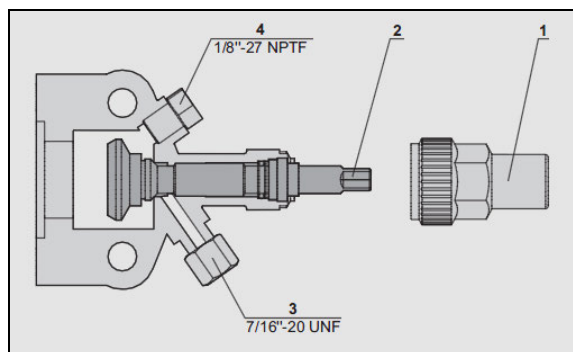

FIGURE 77: COMPRESSOR SHUT-OFF VALVE BACKSEATED POSITION (NORMAL OPERATING POSITION)
4. Backseat the compressor suction shut-off valve (FIGURE 77).
13. Shut down engine and backseat suction and discharge shut-off valves (FIGURE 77).
- Backseat (stem out) the two compressor shut-off valves (FIGURE 77).
- Install A/C pressure gauges at the compressor shut-off valves service ports (item 4, FIGURE 77).